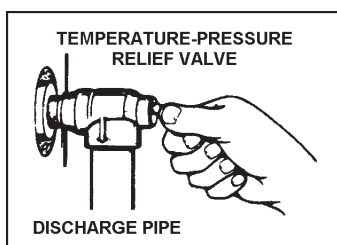

FIGURE 30.
When checking the temperature-pressure relief valve operation, make sure that (1) no one is in front of or around the outlet of the temperature-pressure relief valve discharge line, and (2) that the water discharge will not cause any property damage, as the water may be extremely hot, see Figure 30.